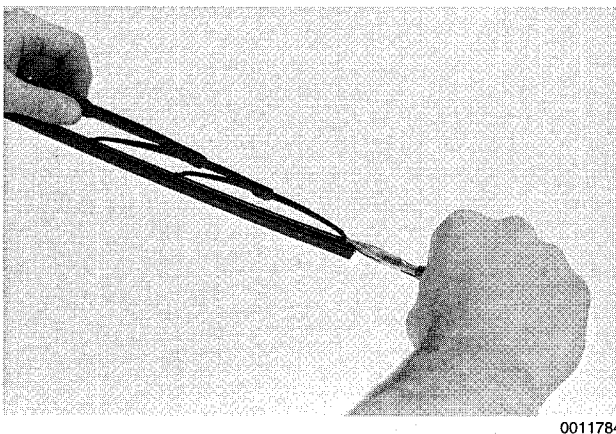

Fig. 2. Unhook wiper blade insert from wiper arm guide. If necessary, guide slightly using needle nose pliers.
2. Unhook end of wiper blade insert from wiper arm guides. See Fig. 2.